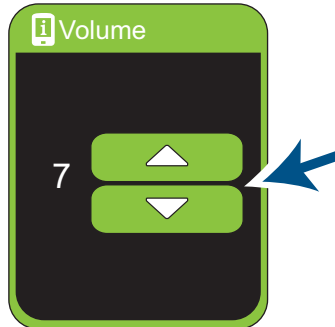

Figure 84. Increasing or decreasing the volume
4. Tap  or  to increase or decrease the volume (*Figure 84*).